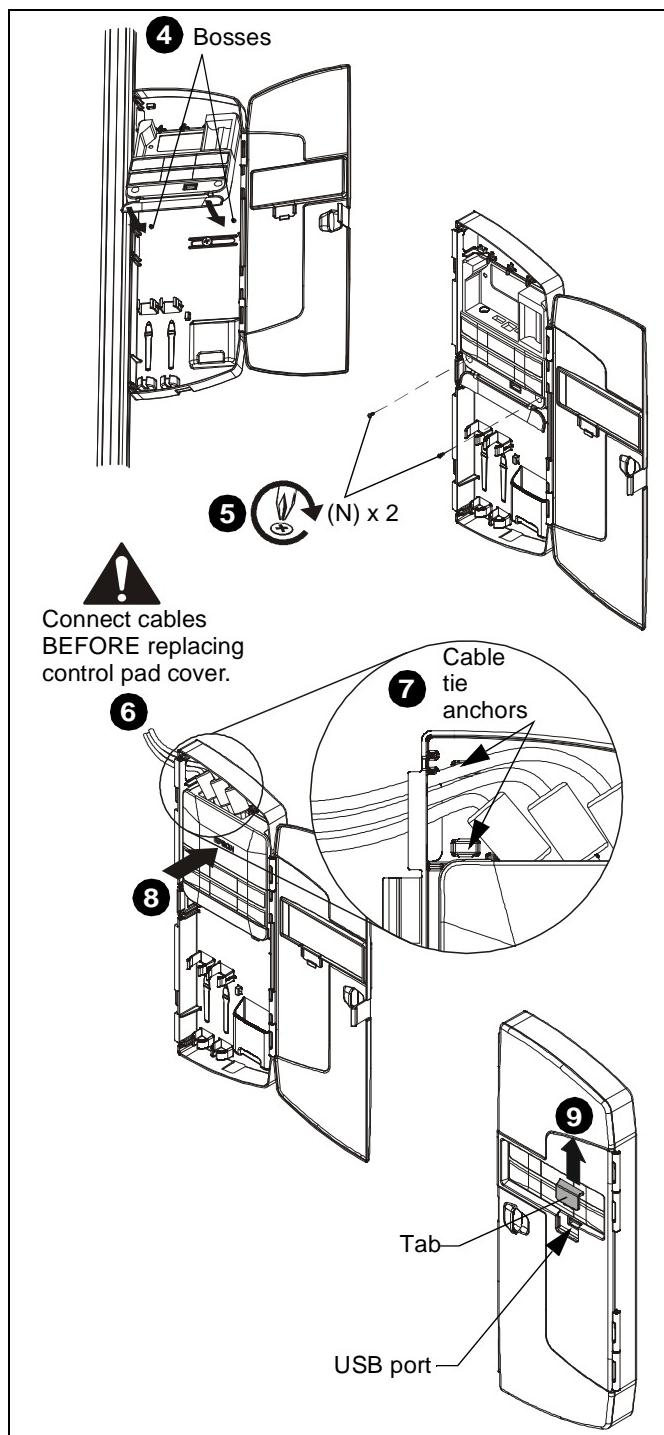

Figure 12
4. Align holes in control pad with bosses in control housing and push control pad into place. (See Figure 12)
5. Secure control pad into place using two #4-24 x 1/4" Phillips pan head screws (N). Do NOT over tighten. (See Figure 12)
6. Attach all cables, including RF cable (AA), to control pad following instructions included with projector/control pad.
7. Use cable ties (F), as necessary, to secure the cables within control panel. (See Figure 12)
8. Replace top cover onto control pad. (See Figure 12)
9. **OPTIONAL:** The tab in the control panel assembly door may be removed to allow attachment to the USB port. (See Figure 12)